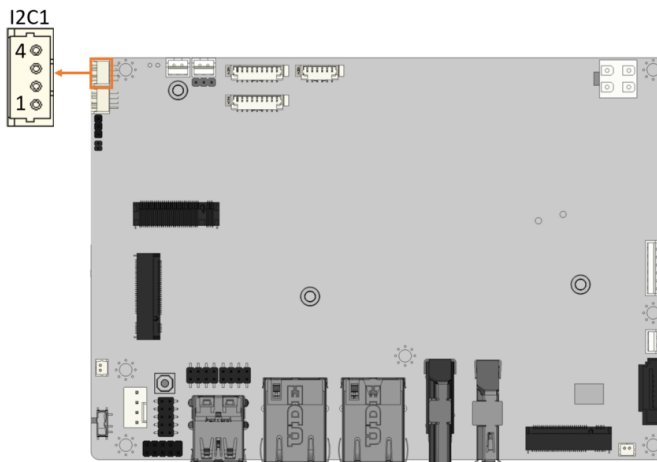

Figure 3-15: I²C Connector Location
- CN Location:** See **Figure 3-15**